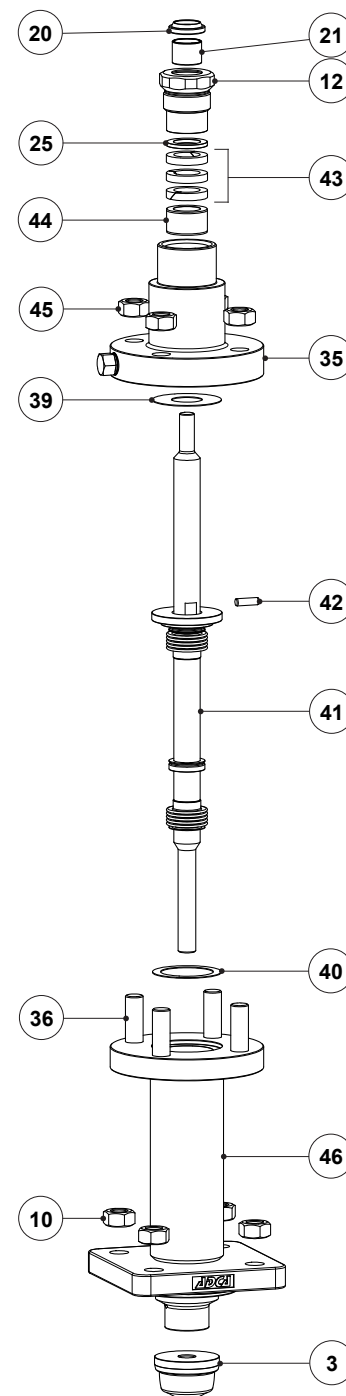

Fig. 13 - Bellows sealing (BG1)
1. Undo the nuts (45) gradually in a crisscross pattern and separate the bellows bonnet (35) from the bellows housing (46).
2. Unscrew the packing nut (12) and remove it carefully together with the O-rings (22, 23).
3. Pull out the washer (25), graphite packing set (43), and spacer (44) using a suitable tool.
4. Clean the packing box, insert the spacer (44), and the new graphite packing set (43) rings one by one. When fitting the graphite rings ensure the scarf joints have an offset from the one below by 90°. See Fig. 13.
5. Renew the scraper ring (20) and plain bearing (21) if necessary.
6. Fit the washer (25), apply a slight smear of anti-seize lubricant to the plain bearing (21), and screw it loosely with your fingers until resistance can be felt. The packing must not be significantly compressed at this stage.
7. Undo the nuts (10) gradually in a crisscross pattern and separate the bellows housing (46) from the valve body (1).
8. Firmly fix the valve plug (3) on a vise, fit a wrench on the two slits close to the locking pin (42), and unscrew the plug (3) from the stem (7).
9. Remove the valve stem (7) with the bellows (41) from the bellows housing (46).
11. Fix the new valve plug (3) on a vise with the thread facing up. The vise jaws should be gripping the plug section with the largest diameter.
12. Fit a new gasket (39) and insert the new bellows (41) on the bellows housing (46).
13. Apply a suitable high-temperature adhesive compound on the lower stem (7) thread and screw it onto the seat, tightening with 50 Nm (DN 15 to 50 – 1/2" to 2"), 120 Nm (DN 65 to 150 – 2 1/2" to 6") and 230 Nm (DN 200 – 8").
14. Insert the pin (42) onto the stem (7) and fit a new gasket (39).